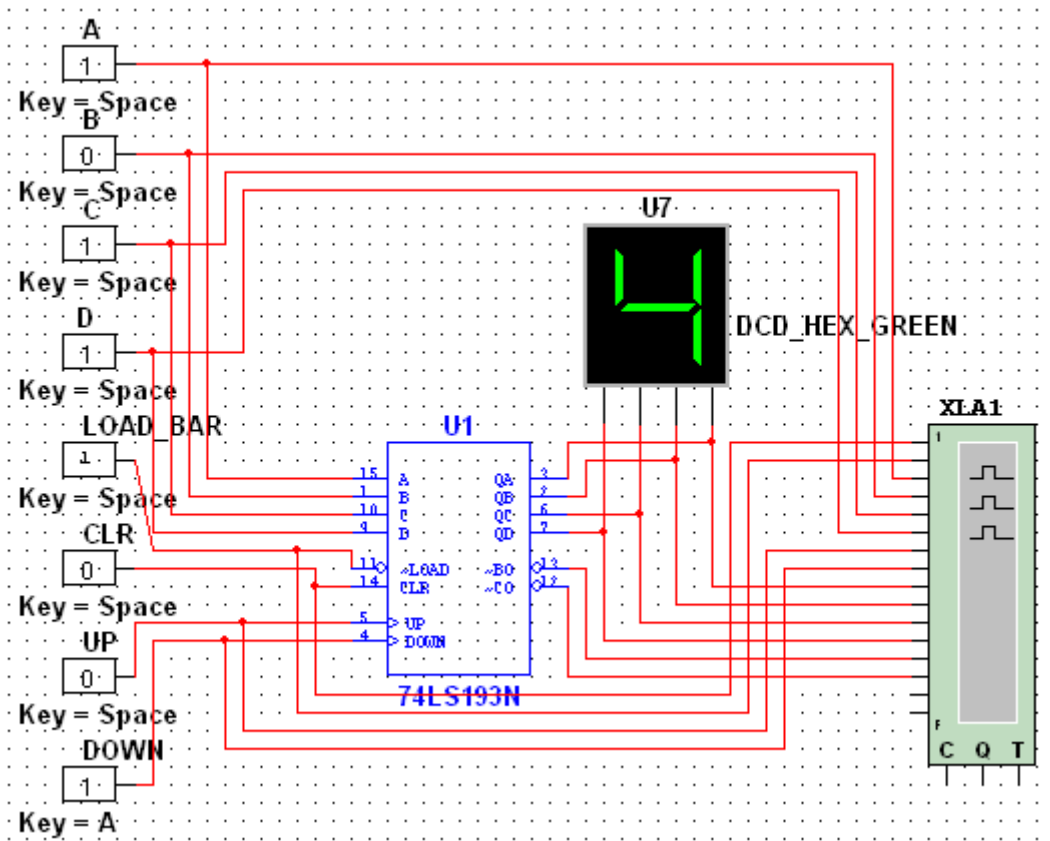

Figure 2. Test Circuit
- (1) Complete the *Multisim* "10-minute Tutorial", contained in file "Multisim_Tutorial.pdf". Work through the tutorial to learn how to use *Multisim* to simulate a simple digital logic circuit.
- (2) Draw and simulate the 4-bit binary counter circuit shown in Figure 2, which is based on the 74163 binary counter. Use source type DIGITAL_CLOCK for the clock input and INTERACTIVE_DIGITAL_CONSTANT for all other inputs, so that you can change the inputs interactively. Connect the outputs to a logic analyzer, to capture and display a timing diagram, and a DCD_HEX_GREEN indicator to display the count value.